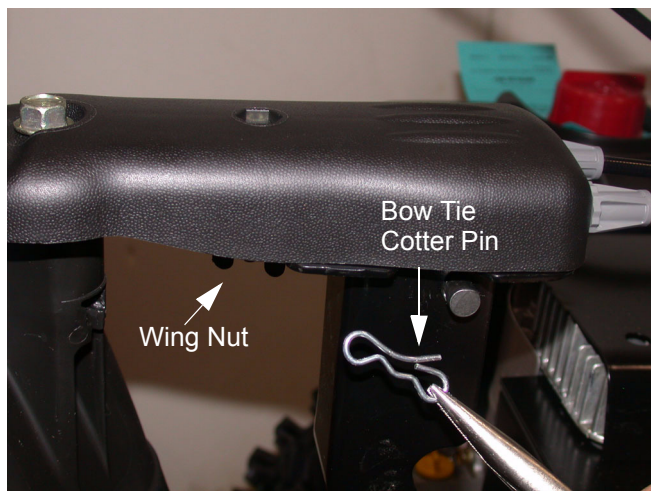

Figure 15.10
- 15.10. Slip the bow tie cotter pin from the clevis pin that holds the pivoting assembly to the support bracket. See Figure 15.10.